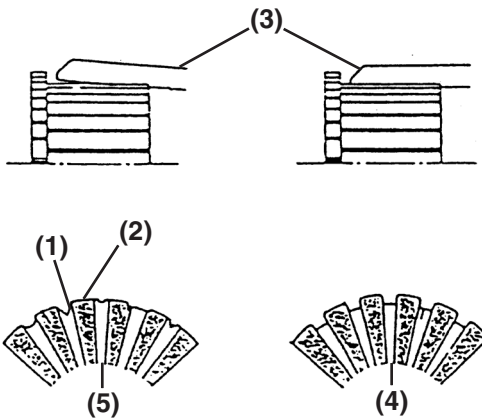

Figure 11-14
Measure the depth of the insulating material **(Figure 11-14, (1))** between commutator segments **(Figure 11-14, (2))**. If the depth measures less than the limit, use a hacksaw blade **(Figure 11-14, (3))** to remove the insulating material until the depth is within the limit.
A normal commutator condition is indicated in **(Figure 11-14, (4))**. An abnormal commutator condition is indicated in **(Figure 11-14, (5))**.